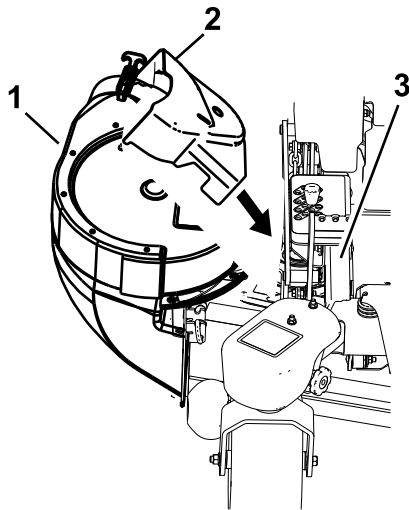

Figure 12
10. Position the belt cover at an angle and slide it under the mower frame (see Figure 12).